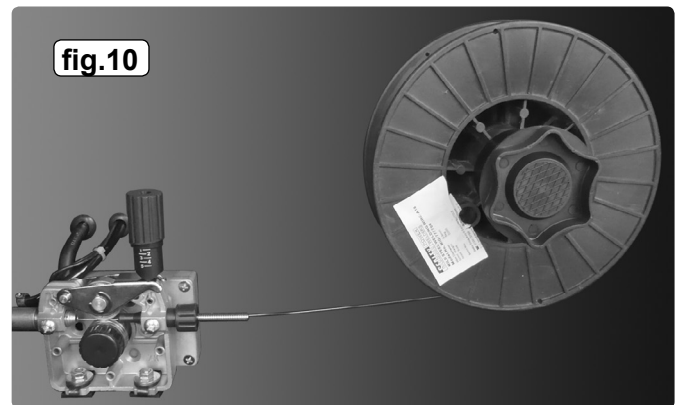

fig.10
- 4.8.1. Unscrew the locking knob from the end of the spool holder (see fig.7C) and remove the spacer. Slide the reel of wire onto the spool holder and ensure that the clutch pin at the back of the spool holder (E) engages into the guide hole in the wire reel moulding. This will prevent the wire reel from freewheeling on the spool holder. Slide the spacer onto the spool holder and retain it by screwing the knob into place as shown above in fig.9. Ensure that the wire is coming off the bottom of the reel in the direction of the wire drive unit as shown in fig.10.